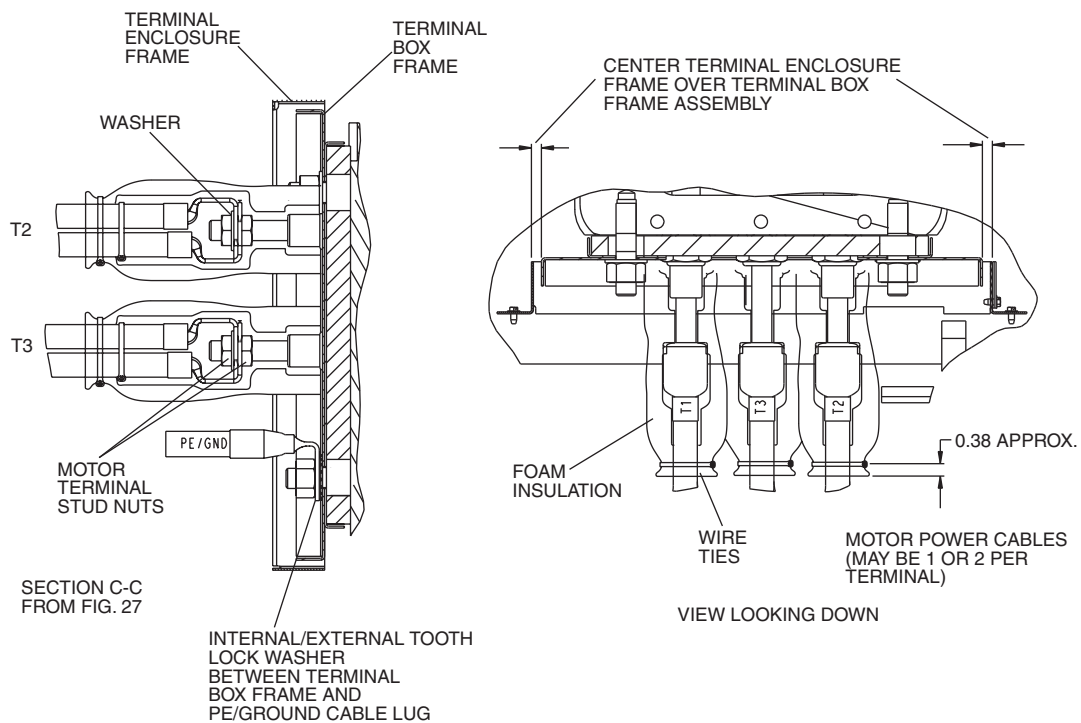

Fig. 28 — Motor Terminal Insulation
4. There may be 1 or 2 motor power cables per terminal identified as T1, T2 and T3. Position motor end lugs on terminal studs with Belleville washer located against the front terminal lug with the convex side facing toward the front terminal nut. Clinch the two cables together with wire ties before tightening terminal nuts. Install front terminal nut finger tight. Hold front terminal nut stationary while tightening rear terminal nut to 45 to 50 ft-lb (61 to 68 N-m). (See Fig. 28.)
Insulate Motor Terminals and Lead Wire Ends — Locate heat shrink tubing (RCD P/N LF33MM114) over power connections so that they are completely covered and tubing is against motor housing. Shrink into position. Slide foam tubing (3 in. inner diameter closed cell vinyl, neoprene, or nitrile foam) part way over the heat shrink tubing. Apply adhesive for closed cell foam insulation to motor side end of the foam tubing and push tubing the rest of the way over the terminal and against the sheet insulation on the motor side. Secure the opposite end of the foam tubing with a wire tie as shown in Fig. 28.
6. Orient PE/ground lug as shown in Fig. 28. Assemble internal/external tooth lock washer between the terminal box frame and the PE/ground cable. Torque PE/ground